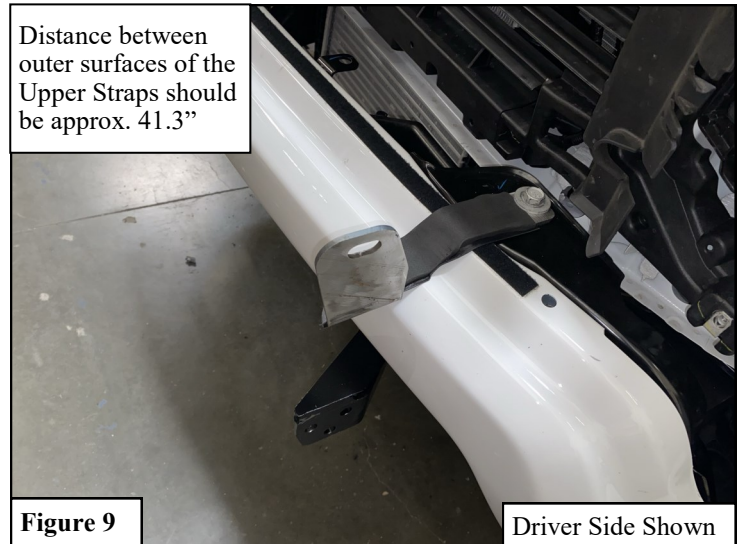

Figure 9
13. Use the OEM hardware to install the upper support straps to the bumper. See **Figure 9**.